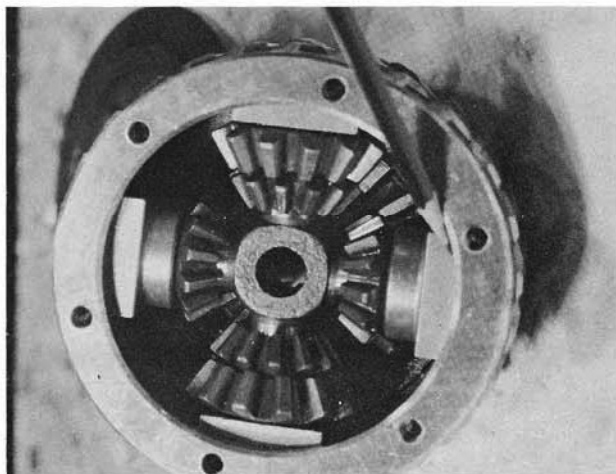
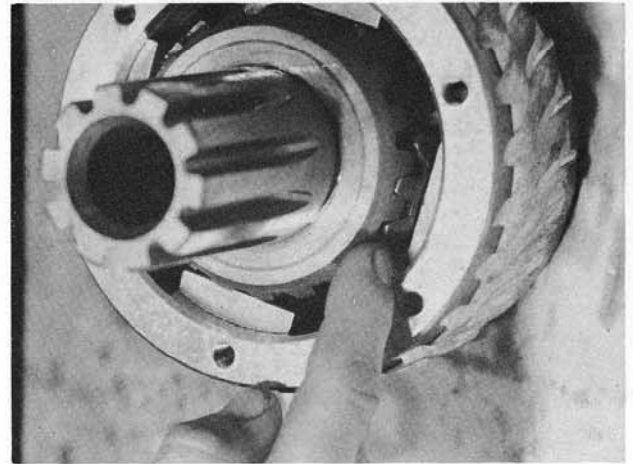

Figure 28
Figure 29
7. Check orientation of powdered metal thrust blocks--see Figure 28. Check for proper gear shimming as in Figure 29. The back cone of Shifting Gear (6704) and Shifting Train Pinion (6702) must be flush within .010.